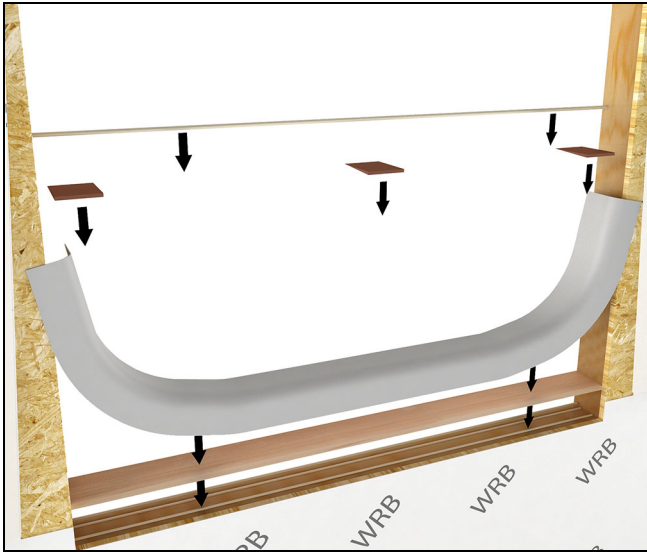

Figure 6
1. The method shown below is Method A1 using a TYPE III flash pan. For step by step instructions on how to prepare an opening using this method, refer to www.marvin.com/ROPrep for instructions titled "Window Rough Opening Prep and Flashing Method A1-Membrane Drainage System". Refer to ASTM E2112-07 for other rough opening preparations that are more appropriate for your situation. See Figure 6.